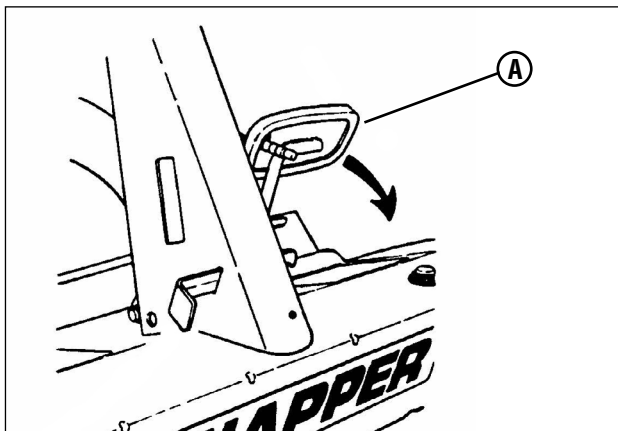

Figure 14: Engaging the clutch/brake pedal
1. Stop motion of the Rear Engine Rider by pushing the clutch/brake pedal (A, Figure 14) all the way down to apply the brake.